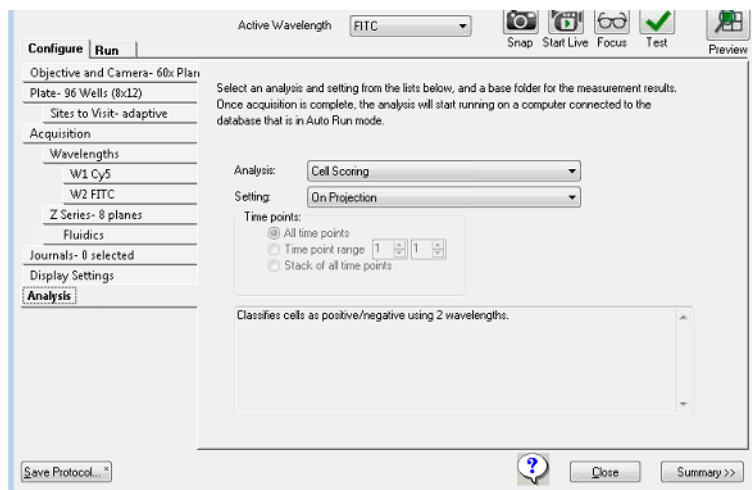
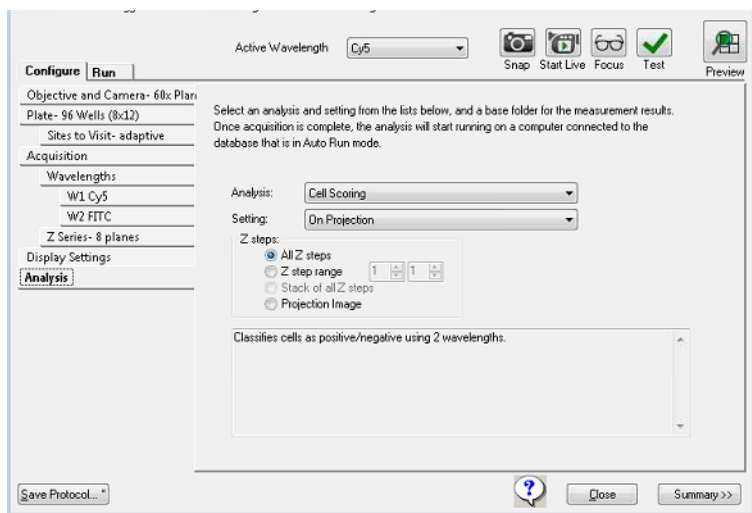

Figure 5-28: Plate Acquisition Setup dialog: Configure tab, Analysis tab (Time Series)
Figure 5-29: Plate Acquisition Setup dialog: Configure tab, Analysis tab (Z Series and 2D Projection Image Only)
3. Open the **Analysis** tab. See Figure 5-28 and Figure 5-29 on page 132.